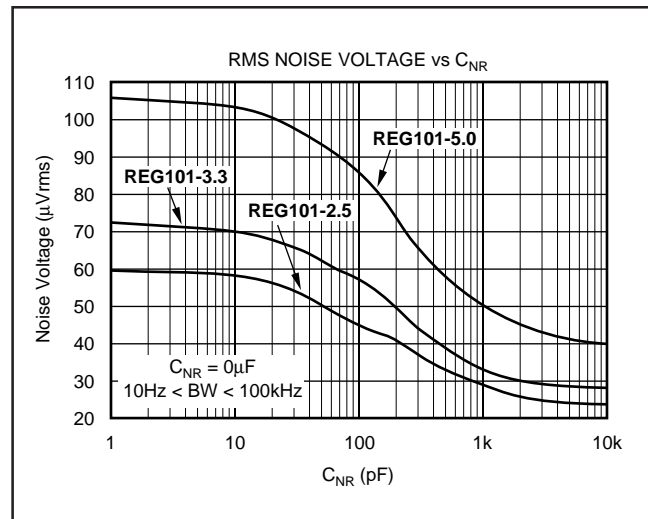
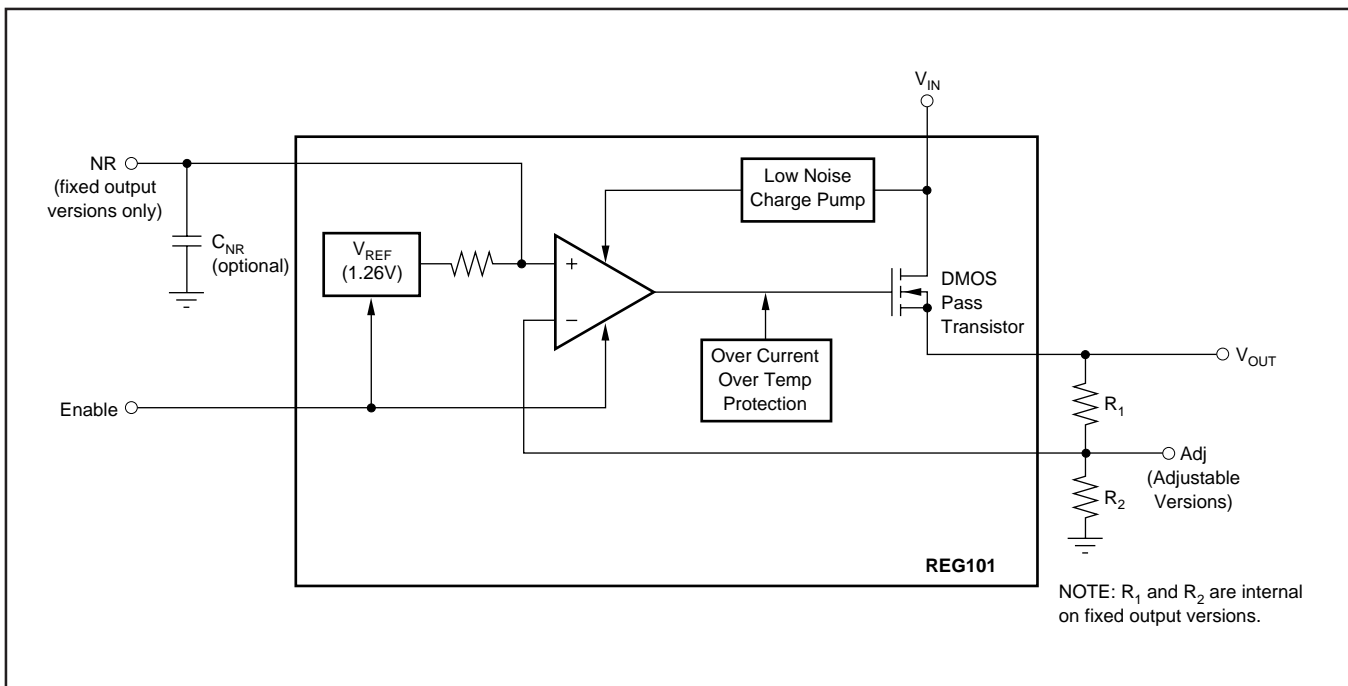

FIGURE 5. Output Noise versus Noise Reduction Capacitor.
FIGURE 4. Block Diagram.
Connecting a capacitor,  $C_{NR}$ , from the Noise Reduction (NR) pin to ground, as shown in Figure 4, forms a low-pass filter for the voltage reference. For  $C_{NR} = 10nF$ , the total noise in the 10Hz to 100kHz bandwidth is reduced by approximately a factor of 2.8 for  $V_O = 3.3V$ . This noise reduction effect is shown in Figure 5 and as "RMS Noise Voltage vs CNR" in the Typical Characteristics section.